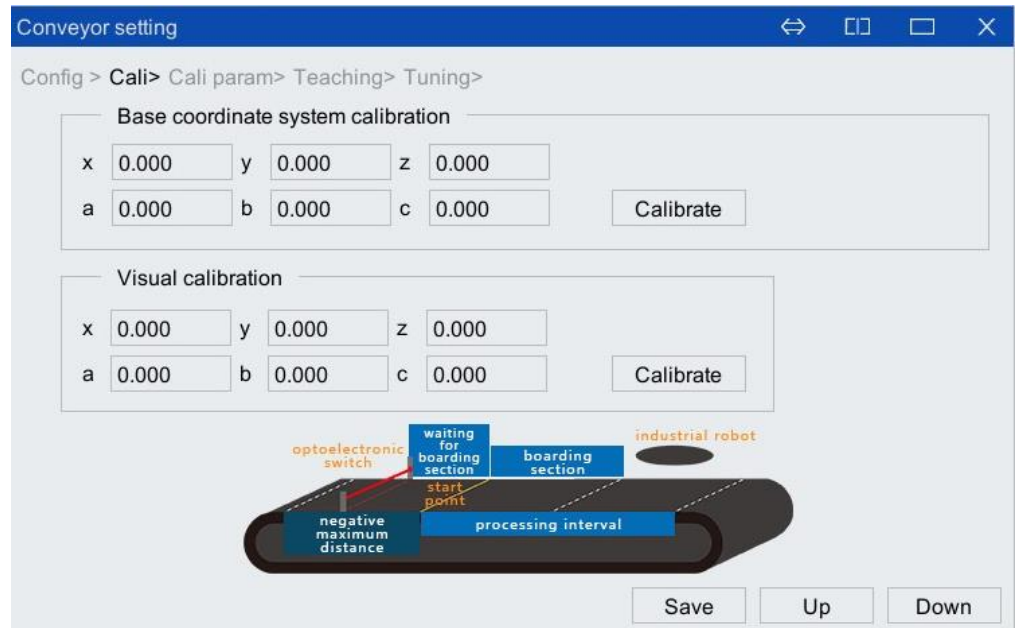

Figure 5-4 Conveyor belt calibration interface
Step2. Click <Down> to enter the [Cali] interface, and click the <Calibrate> button in the upper part of [Base coordinate system calibration]. As shown in Figure 5-4.